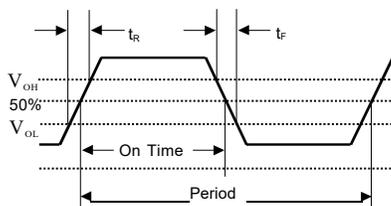
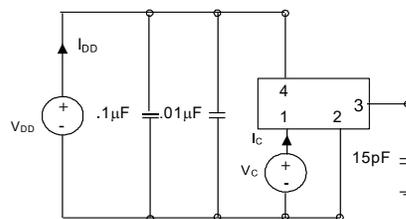

Figure 1. Output Waveform
Figure 2. Typical Output Test Conditions (25±5°C)
2. Figure 1 defines these parameters. Figure 2 illustrates the operating conditions under which these parameters are tested and specified. For $f_o > 90\text{MHz}$, rise and fall time is measured 20 to 80%.